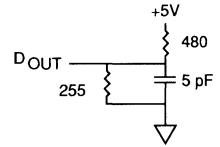

Fig. 2 OUTPUT LOAD EQUIVALENT
6.  $t_{HZCE}$ ,  $t_{HZWE}$  and  $t_{HZOE}$  are specified with  $C_L = 5\text{pF}$  as in Fig. 2. Transition is measured  $\pm 500\text{mV}$  from steady state voltage.